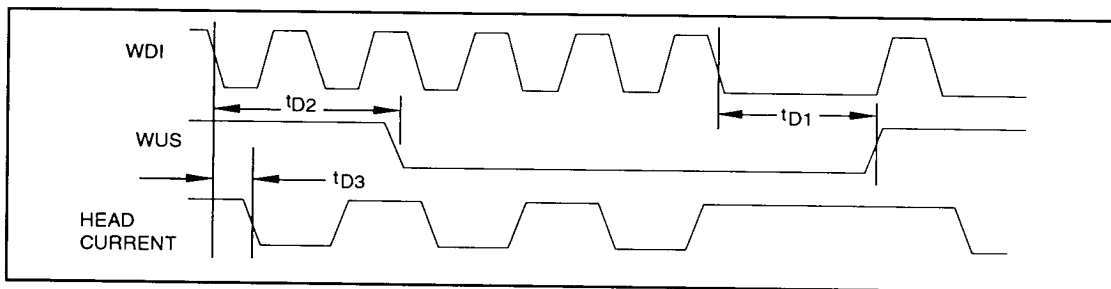

Figure 1: Write Mode Timing Diagram
**SWITCHING CHARACTERISTICS** Recommended operating conditions apply unless otherwise specified;  $I_W = 20mA$ ,  $f_{DATA} = 5MHz$ ,  $L_H = 1\mu H$ ,  $R_H = 30\Omega$ ,  $C_L$  (RDX, RDY)  $\leq 20pF$  (see Figure 1).